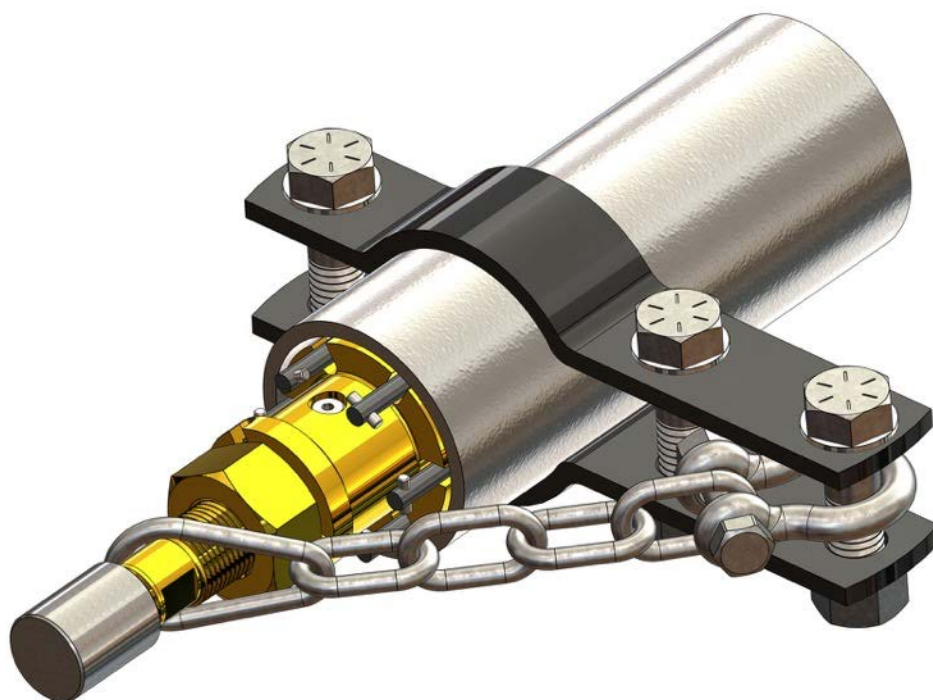

Figure 9: Properly Installed Safety Gag on Pipe
- See Figure 9 for an example of a properly installed Safety Gag.